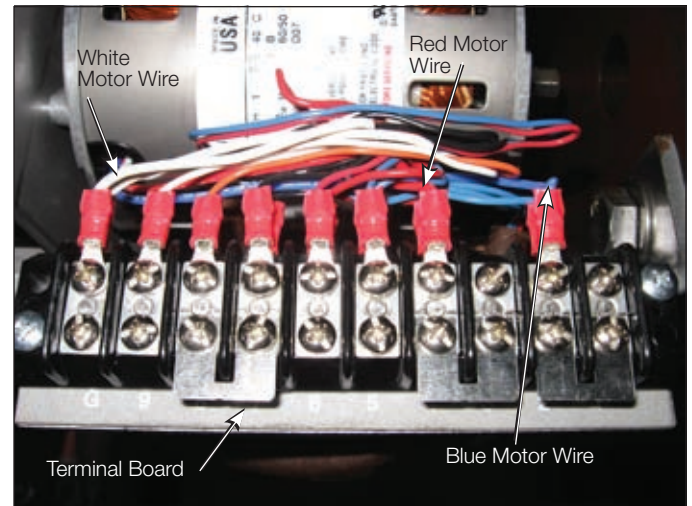

Figure 3.
4. Use a Phillips screw drive to disconnect the white motor wire located on terminal "G", the red motor wire located on terminal #4 and the blue motor wire located on terminal #2. Refer to Figure 3.